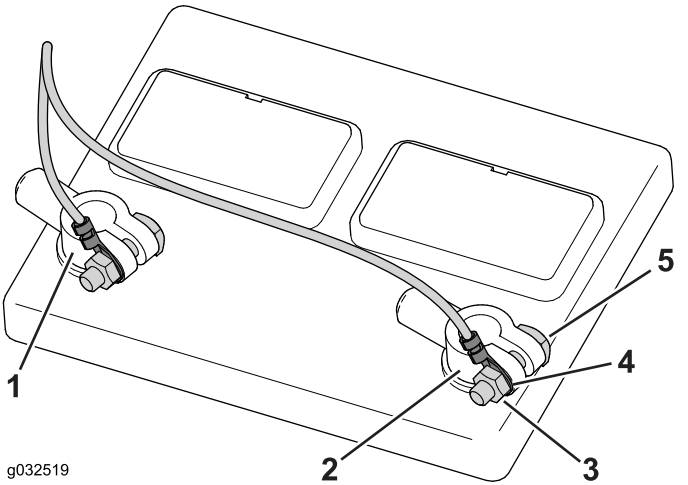

Figure 44
2. Loosen and remove the negative-post clamp and then the positive-post clamp from the battery (Figure 44).
3. Remove the nuts from the post bolts (Figure 44).
4. Install the negative-terminal connector (black wire) over the negative-post bolt and loosely install the nut (Figure 44).
5. Install the positive-terminal connector (red wire) over the positive-post bolt and loosely install the nut (Figure 44).
6. Install the positive-post clamp to the positive-battery post and then the negative-post clamp to the negative-battery post (Figure 44).